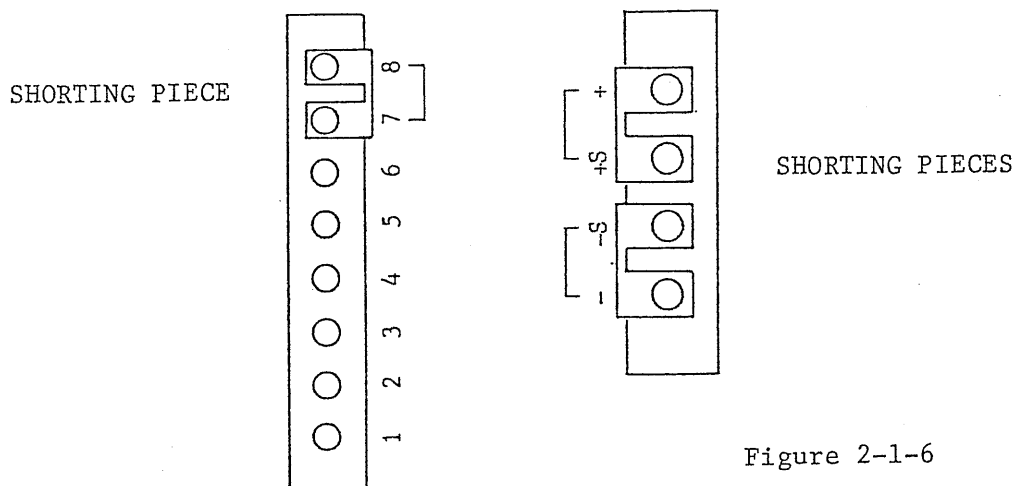

Figure 2-1-6
(7) Rear Terminal Blocks
- o Confirm that the shorting pieces of the rear terminal blocks are securely connected as shown in Figure 2-1-6. If they are not correctly connected, the Load will not operate properly.